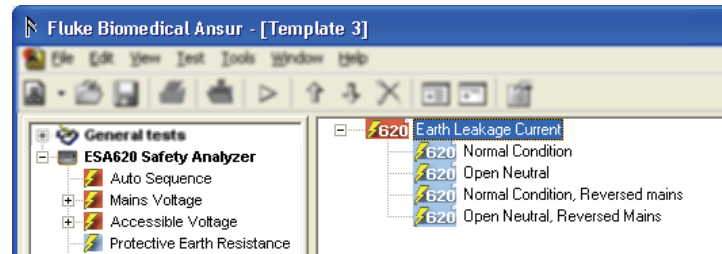

Figure 4-13. Add an Earth Leakage Current Test
1. Create a new test template and add an Earth Leakage Current test group as shown in Figure 4-13.